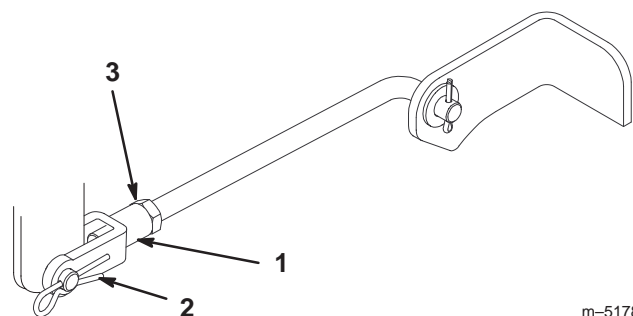

Figure 43
9. To adjust the front-to-rear blade slope, remove the hairpin cotter from the front trunion yokes and loosen the jam nuts (Fig. 43).
10. Rotate the yokes on the rods to change the adjustment (Fig. 43). To raise the front of the mower, tighten the yokes (shorten the rods). To lower the front of the mower, loosen the yokes (lengthen the rods).